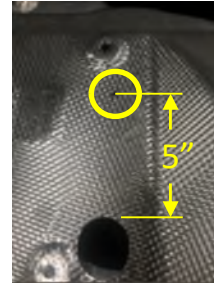
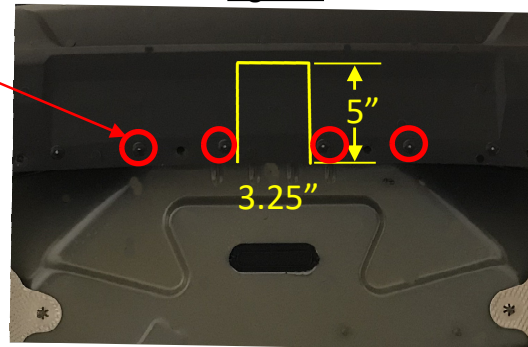

Figure 2
Figure 3
- Remove heat shields** - Using a 10mm socket, remove the nuts holding the heat shield, and using a 7mm socket, remove the screw holding the heat shield to the wheel well liner and the fascia, remove the heat shield. Cut a 1.5" hole forward of the center attachment in the heat shield to clear the middle fastener for the hitch, see **Fig. 2**. Set fasteners aside for reinstallation.
- Remove Kick Sensor (If applicable)** – Using a ¼" drill bit remove the center (4) rivets holding the kick sensor in place.
- Trim fascia** – If applicable, move the kick sensor aside to avoid cutting during trimming. Find the center of the fascia and trim the vehicle fascia per **Fig. 3**. *Dimension are approximate.